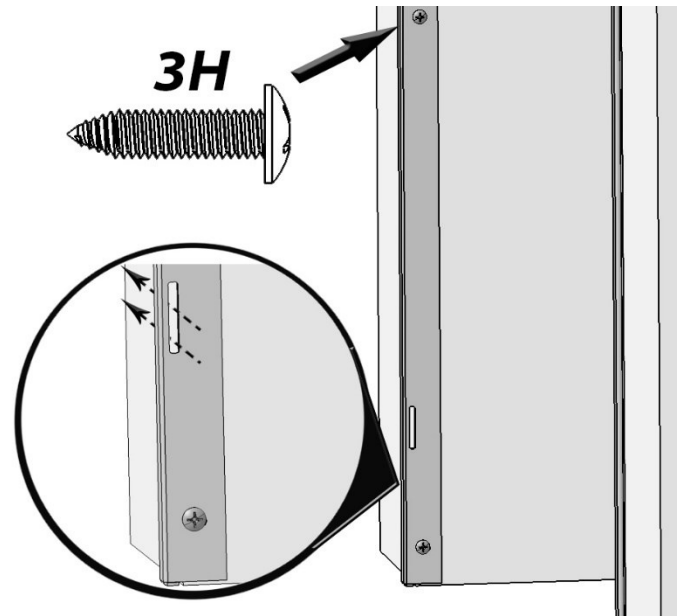

Figure 15
5. Using eight 3H screws and a power drill, attach the two Side Trim Attachment brackets to the front left and right cabinet cut-out edges with the brackets touching the floor (Figure 15). **Ensure that the rectangular slots extend over the cabinet edge.**